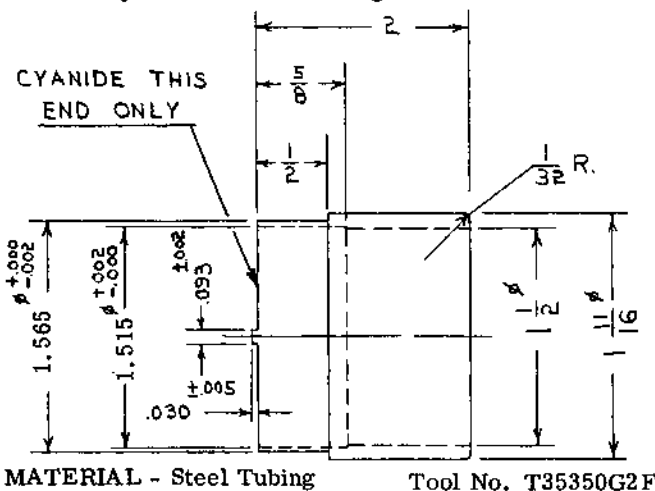

Figure 1. TUBULAR WRENCH
5. Special Tools - See Figures 1 thru 4.